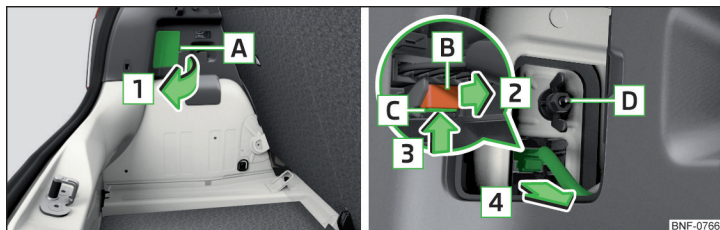

Fig. 148 Remove light / pull out connector
- Open up the flap in area **A** in the direction of arrow **1** » Fig. 148 .
- Screw in and tighten the plastic nut **D** » Fig. 148 .